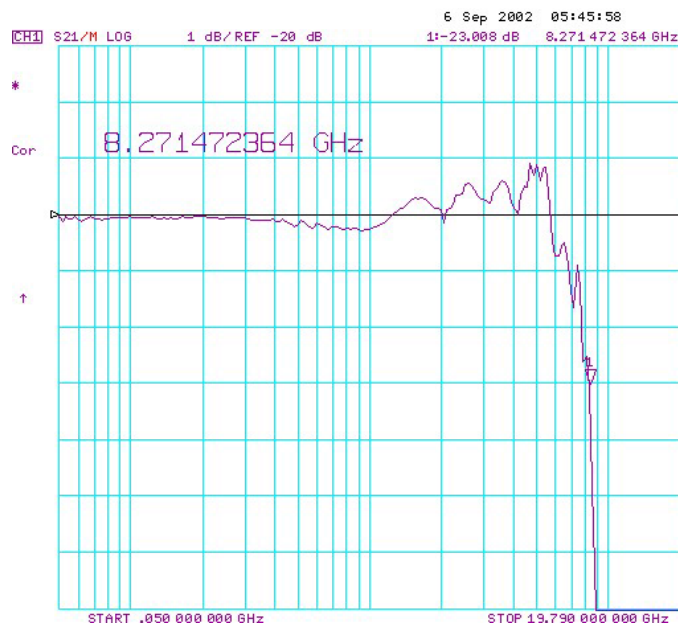

Figure 232 Typical Waveform for an 1134B Probe
- 45 Then select the **Data/Memory** screen key. You may need to adjust the **Reference Value**, located under the **Scale Ref** key, slightly to position the waveform at center screen. The waveform should be similar to that shown in **Figure 232** on page 213.